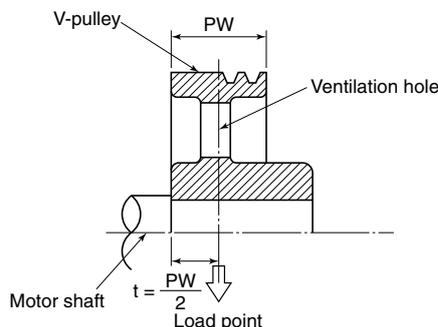

Fig. 4 Installation of pulleys
- (2) **Use an arm-type pulley that has a ventilation hole** so that the pulley does not obstruct the ventilation cooling. Provide as large a ventilation hole as possible if a flat plate type is to be used. (Refer to Fig. 4.)
- (3) The V-Belt speed is as follows.